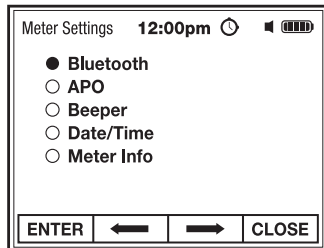

Fig. 21
2. Use the soft keys to select and ENTER desired setting (Fig. 21).
1. From Meter Settings, select and ENTER Bluetooth (Fig. 21).
1. From Meter Settings, select and ENTER APO (Fig. 21).
1. From Meter Settings, select and ENTER Beeper (Fig. 21).
1. From Meter Settings, select and ENTER Date/Time (Fig. 21).
From Meter Settings, select and ENTER Meter Info (Fig. 21).